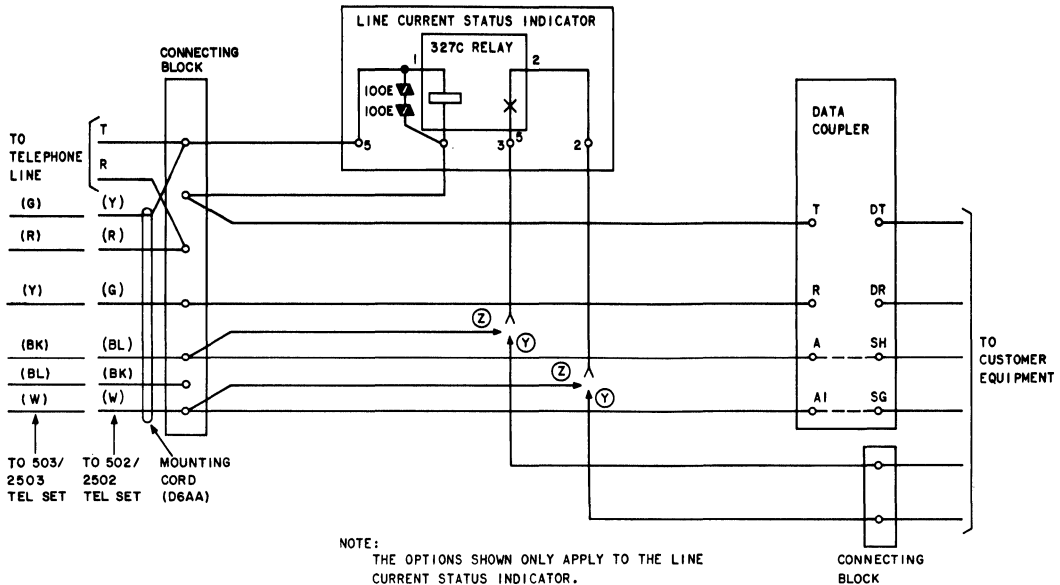

Fig. 13—Line Current Status Indicator Connection Diagram
3.13 The LCSI (Fig. 13) must be made locally.
- (3) Apply adhesive (Eastman 910 or equivalent) in the area to be occupied by the 327C relay.
- (4) Place relay on baseplate, topside down.
- (5) Remove and discard the lower screws from terminal strip eyelets in positions 2, 3, 4, and 5.
- (6) Wire the LCSI in accordance with Fig. 13.